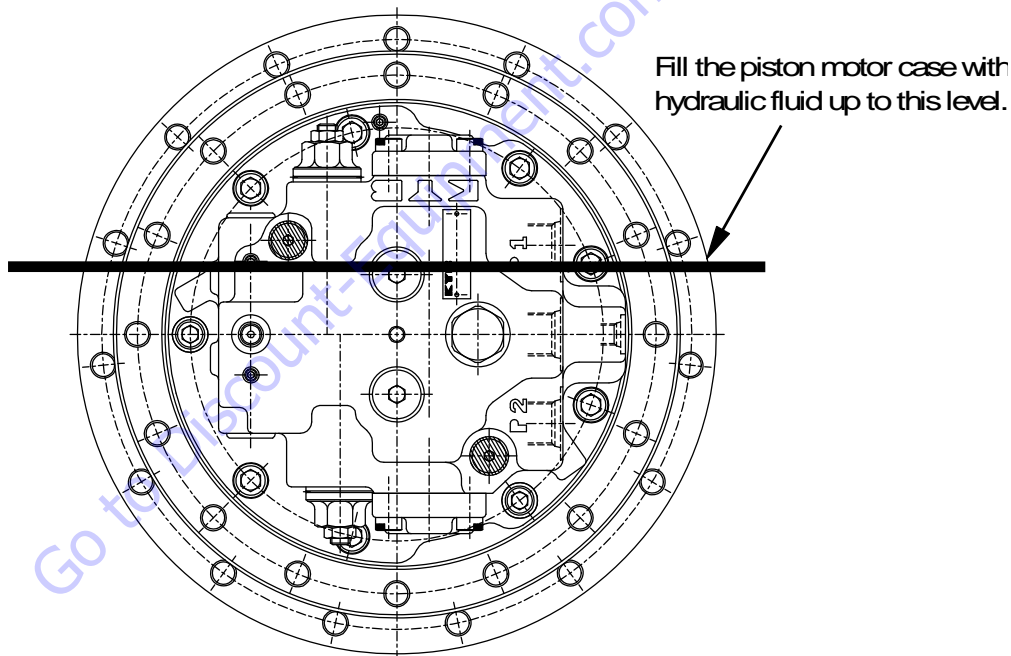

Figure 5-18. Oil level of hydraulic fluid at the initial stage
1. Fill the piston motor case with hydraulic fluid. (See Figure 5-18.) Remove air from the hydraulic circuit.